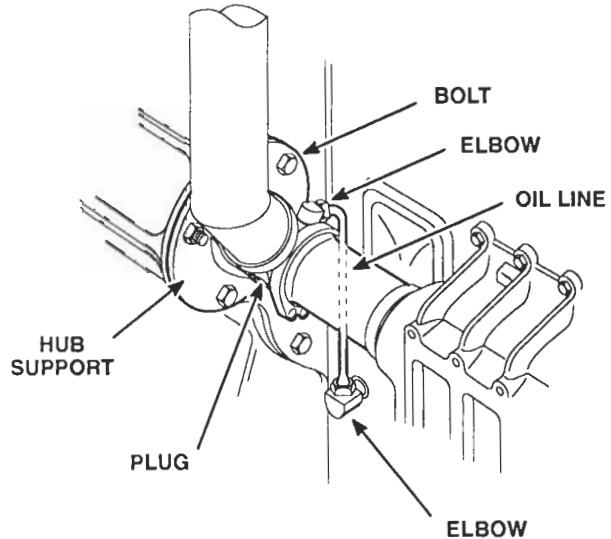

Figure 3. Blower Drive Shaft Mounting
2. Remove the snap ring (Figure 3.) and pull the blower drive shaft out of the drive assembly.